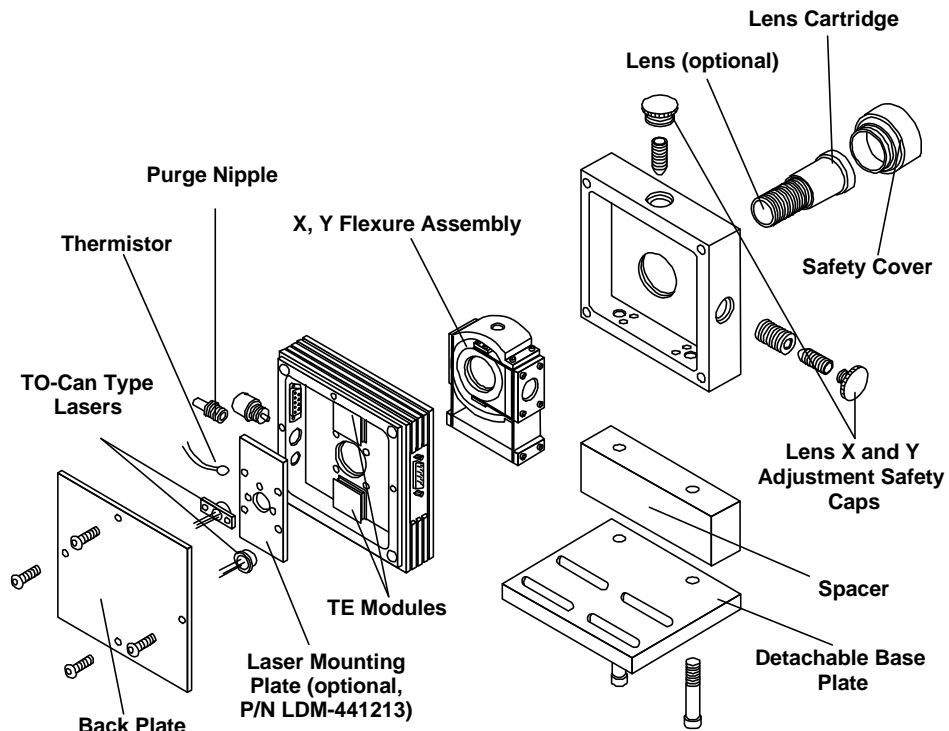
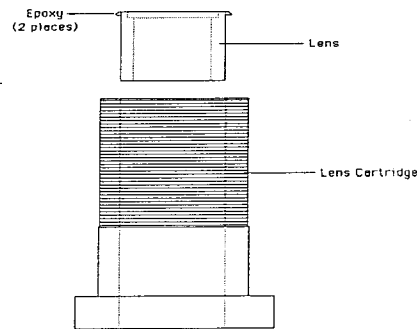

Figure 2.4 LDM-4412 Exploded View
Figure 2.5 LDM-4412 Lens Assembly
To remove the lens cartridge for lens mounting, refer to Figure 2.4 and Figure 2.5:
- 10 Secure the back plate with the four hex cap-screws (see Figure 2.4).